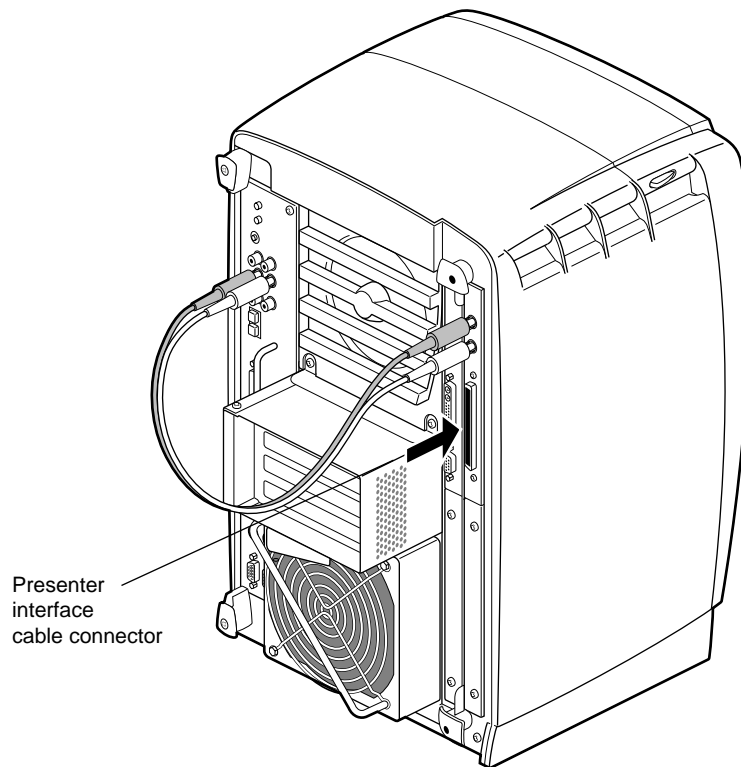

Figure 1-26 Connecting the Presenter's Interface Cable
2. Connect the Presenter's interface cable to the Presenter board's I/O connector (Figure 1-26) and to the Presenter flat panel monitor.